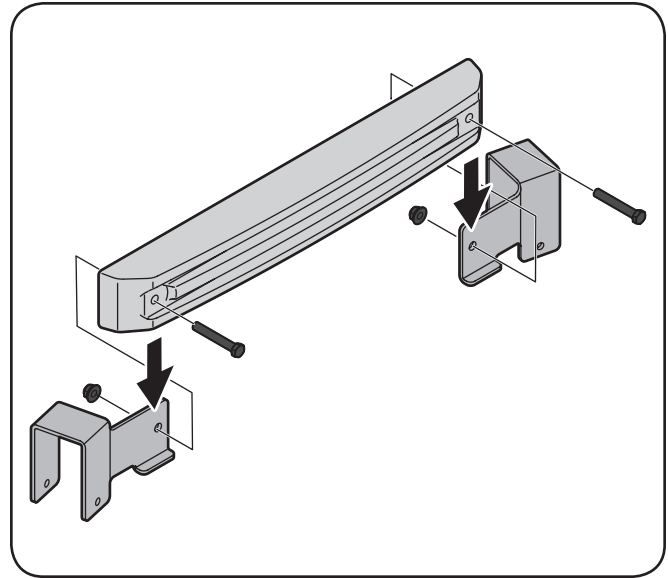

Figure 4-25
1. Attach the left mounting bracket and the right mounting bracket to the weight bar using two 2 1/2-inch screws (710-0859), and 3/8" flange nuts (712-04065) from hardware pack 689-00325. See Figure 4-25.